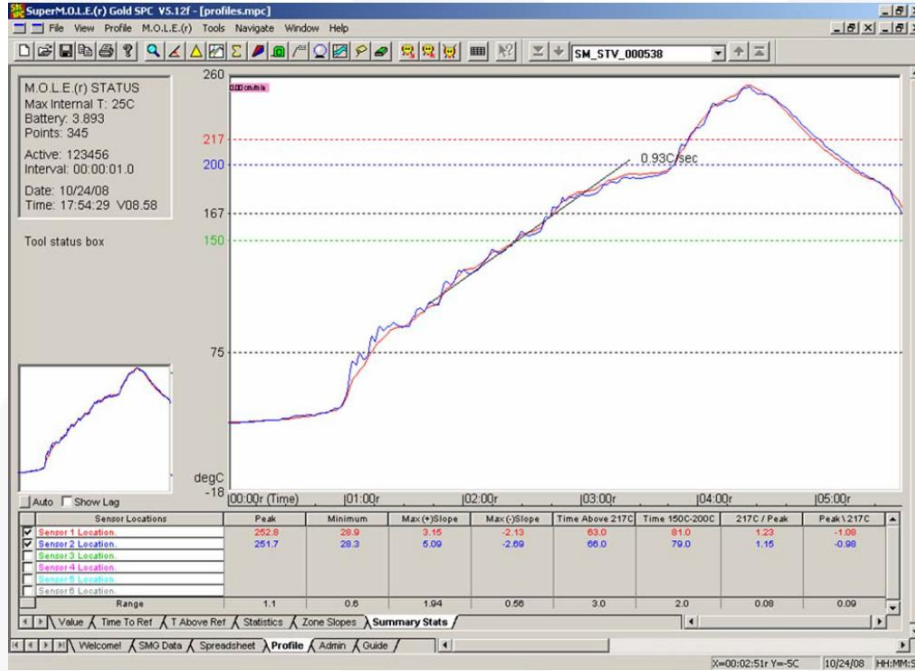

Figure 2. Fairchild-Derived Reflow Profile for WLCSP Using SAC305 Solder Paste
- 3. The time above 217°C for this much-larger package is only 45-47 seconds. The difference is the PCB has a low density array of this package type, so thermal load is lower than the example in Figure 2 above.